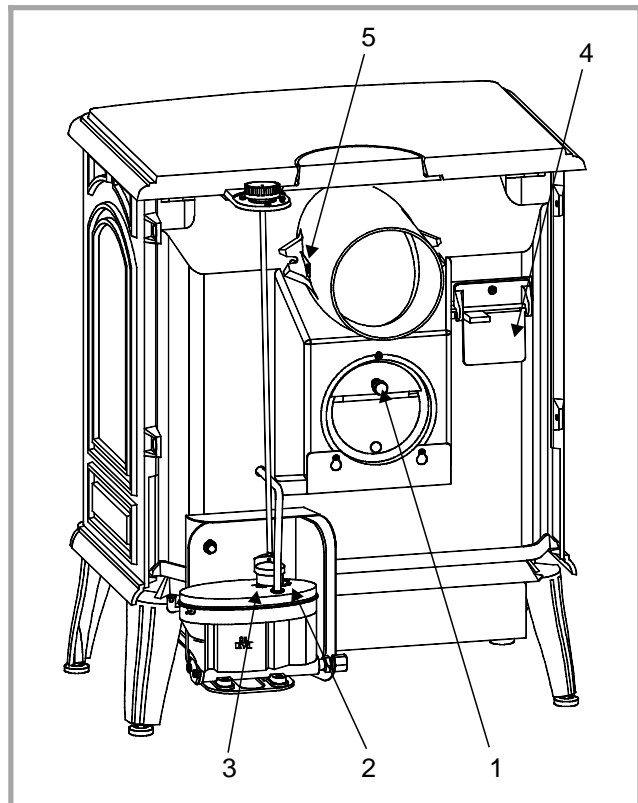

Figure 9 - Adjustment devices
A draft regulator (# 1, fig. 9, p. 6) ensures a constant air intake to the burner regardless of external factors.
Minimum speed (# 3, fig. 9) :
Maximum speed (# 2, fig. 9) :
The adjustment of the draught will be made with the barometric damper located at the back of the stove (# 1, fig. 9)
- The barometric damper (draught regulator # 1, fig. 9) should be checked at least once per year.